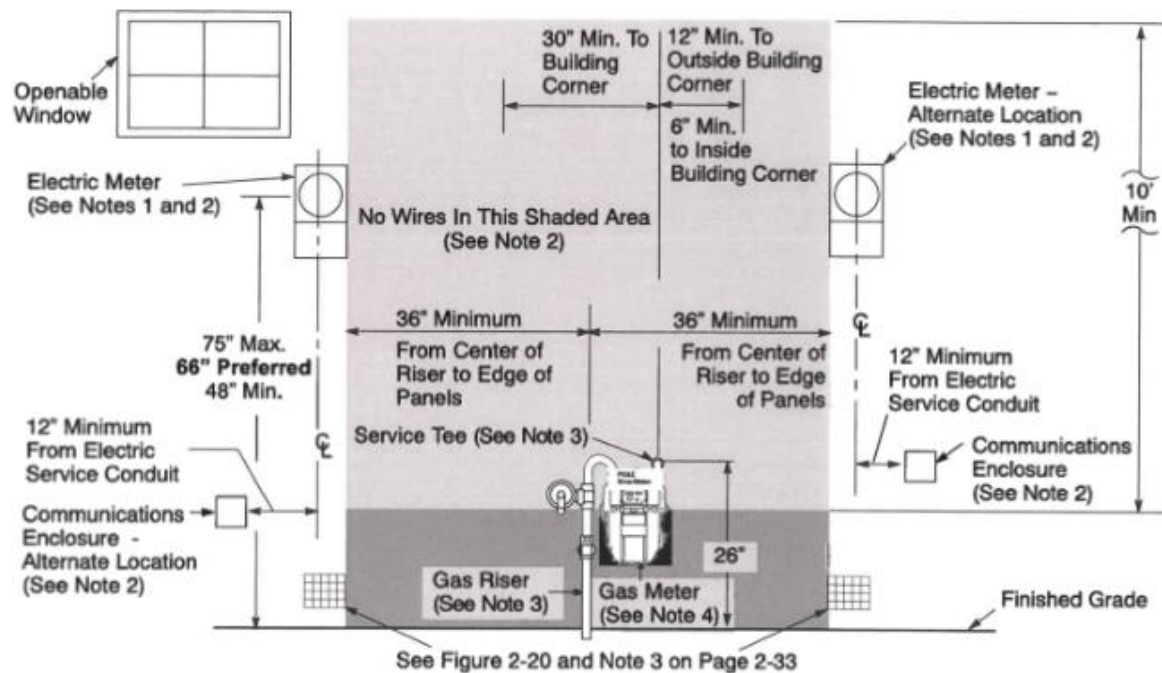

Figure 2-19
- Figure 2-19, "Electric and Gas Meter Set Separation Dimensions and Clearance," below; Figure 2-20, "Gas Meter Set Clearance From Building Openings," on Page 2-32; and figure 2-21, "Gas Regulator Set Clearance Requirement From Sources of Ignition," on Page 2-33, all represent various metering facilities' clearance requirements. If applicants install enclosures on their premises, the enclosures must meet the specifications provided in these illustrations.
Notes in Reference to Figure 2-19.
4. The minimum dimensions and clearances in figure 2-19 are good for gas meters up to the 1,000 class. See Figure 2-15 on Pages 2-26 and 2-27 for illustrations of clear and level working space in front of the gas meter.